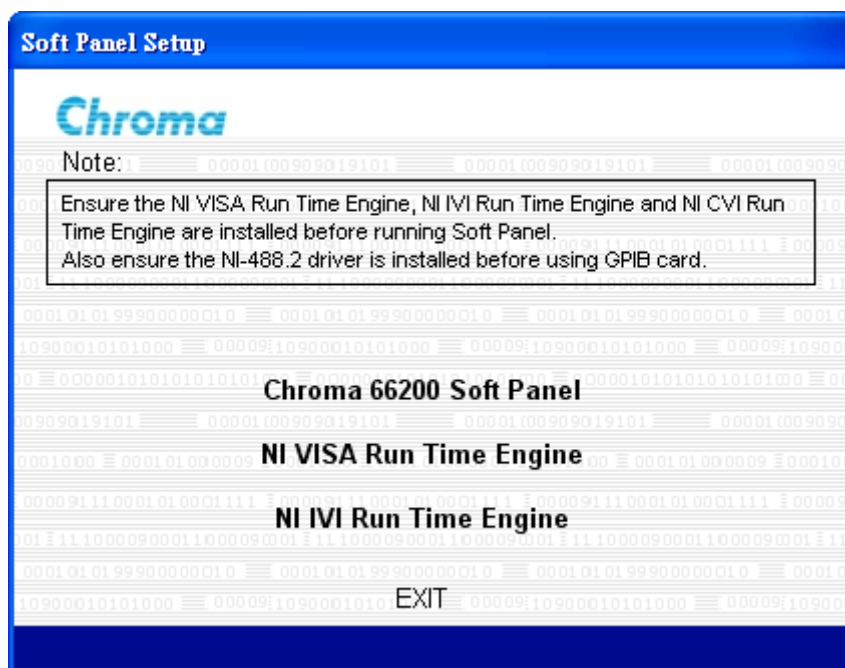

Figure 2-2 Soft Panel Setup Screen
1. After placing the CD in CD drive, the program “Setup.exe” will execute automatically and prompt a Soft Panel Setup screen as shown in Figure 2-2. If it does not run automatically, double-click “Setup.exe” to execute it manually.
1. Click the **NI VISA Run Time Engine** as shown in Figure 2-2 and the following screen will prompt to install the NI VISA Run Time Engine driver version 4.1. Click **Next >>** to continue.
5. Click the **NI IVI Run Time Engine** as shown in Figure 2-2 and the following screen will prompt to install the NI IVI Run Time Engine driver. Click **Next >** to continue.